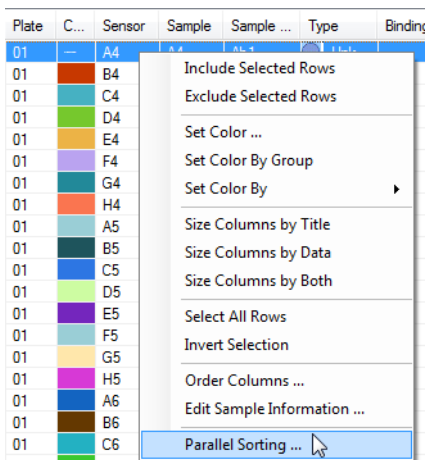

Figure 4-27: Parallel Sorting Menu
- a. Right-click the Results Table and select **Parallel Sorting** (Figure 4-27).